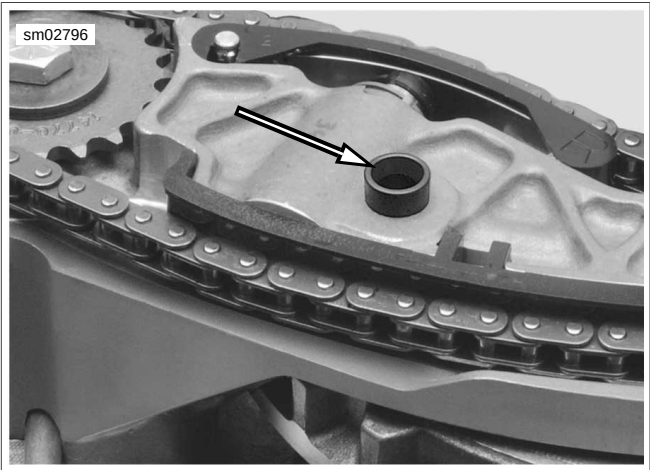

Figure 3-125. Rubber Interconnect
7. See Figure 3-125. Remove and discard rubber interconnect from balance shaft support assembly.